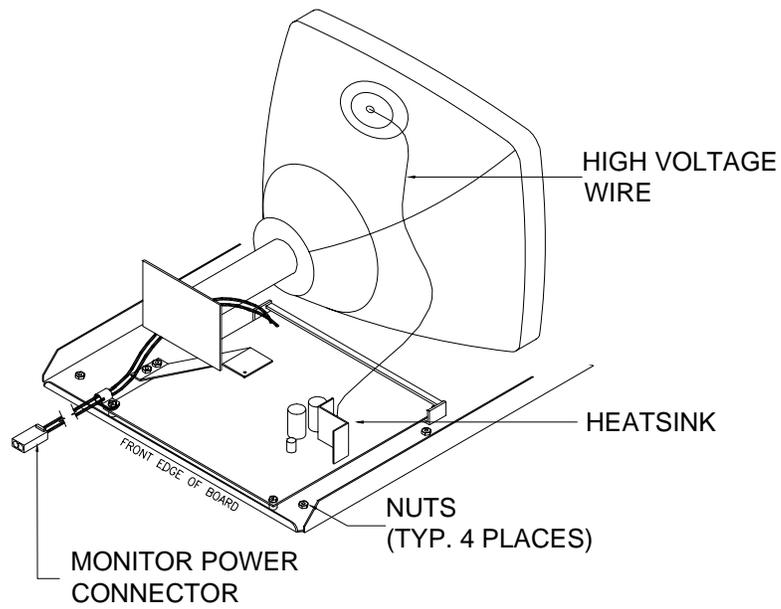

FIGURE 5 - MONITOR REMOVAL
7. Remove the 4 nuts securing the monitor chassis to the main chassis. Two nuts are located on each side of the monitor board. See Figure 5 for locations. NOTE: BE CAREFUL TO AVOID THE FLYBACK TRANSFORMER AND HIGH VOLTAGE WIRE RUNNING TO THE MONITOR.